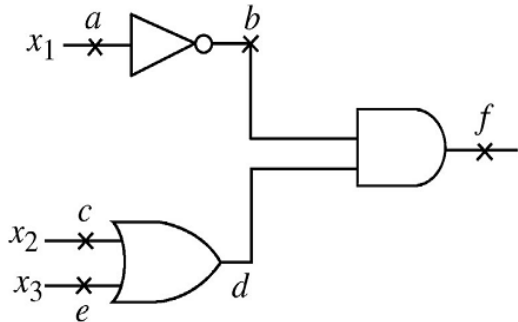

FIG. 3B
- 3B. Obtain the minimal test vector set for the fault set {a0, b0, c0, d1, e0, f1} in the circuit of **FIG. 3B** using fault table method.